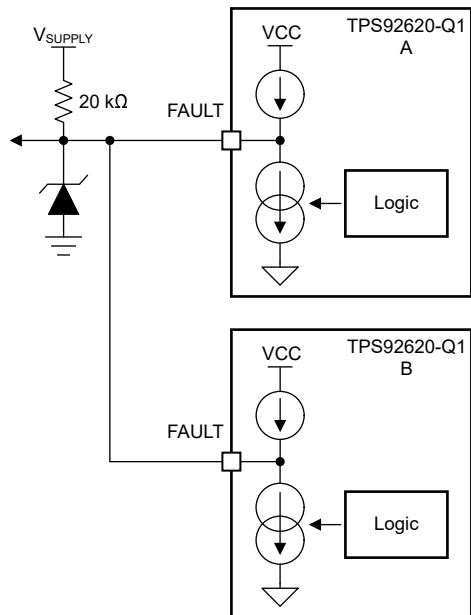
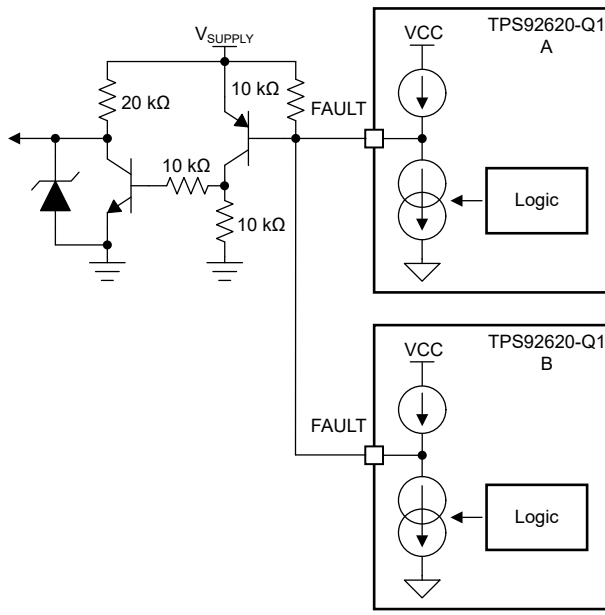

Figure 6-6. FAULT Bus for One-Fails-All-Fail Application
Figure 6-7. FAULT Bus for One-Fails-Others-On Application
Based on this feature, the TPS92620-Q1 device is able to construct a FAULT bus by tying $\overline{FAULT}$ pins from multiple TPS92620-Q1 devices to achieve one-fails-all-fail function as Figure 6-6 showing. The lower side TPS92620-Q1 (B) detects any kind of LED fault and pulls low the $\overline{FAULT}$ pin. The low voltage on $\overline{FAULT}$ pin is detected by upper side TPS92620-Q1 (A) because the $\overline{FAULT}$ pins are connected of two devices. The upper side TPS92620-Q1 (A) turns off all output current for each channel as a result. If the $\overline{FAULT}$ pins of each TPS92620-Q1 are all connected to drive the base of an external PNP transistor as illustrated in Figure 6-7, the one-fails-all-fail function is disabled and only the faulty channel device is turned off.